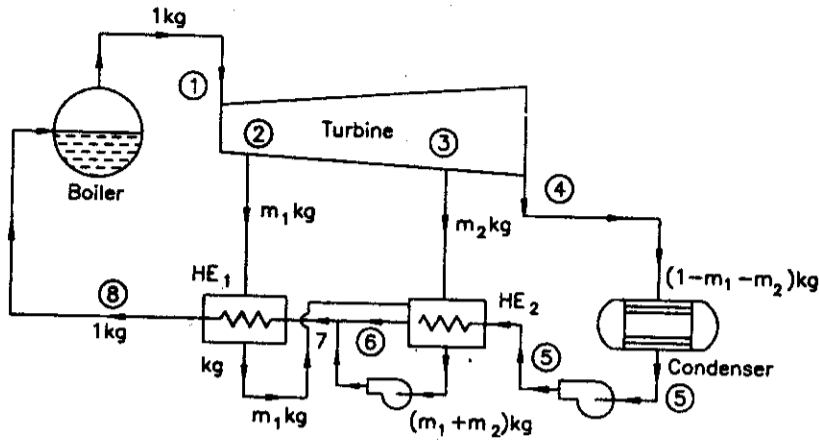

Fig. Prob. 22.14 (a).
**Solution.** The arrangement of the components is shown in Fig. Prob. 22.14 (a) and the expansion processes are represented on  $h - s$  diagram as shown in Fig. Prob. 22.14 (b).